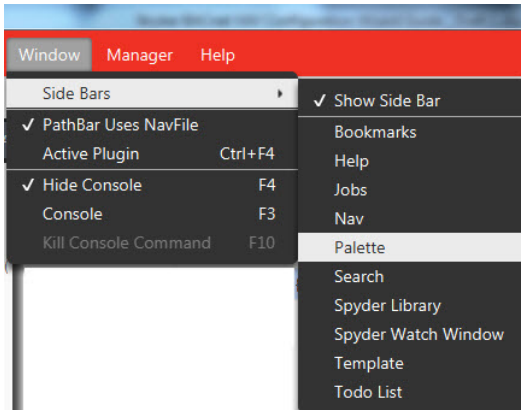

Figure 22: Adding Palette
- Click on the 'Window' option in Menu bar; navigate to 'Palette' through sub menu of 'Side Bars'. (Refer to Figure 22).